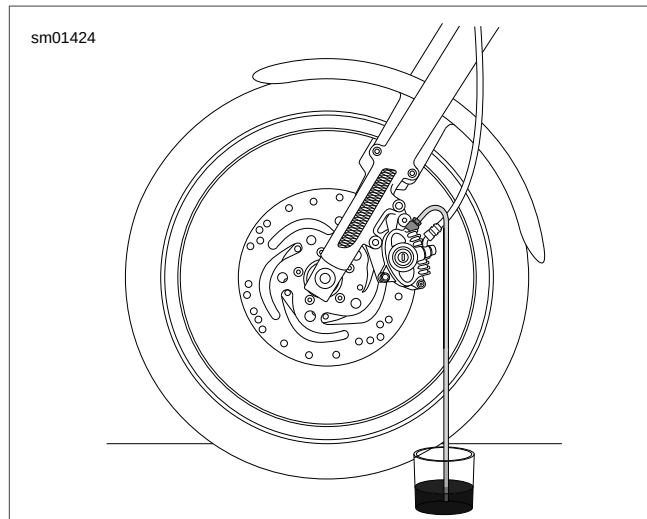

Figure 2-79. Bleeding Hydraulic System (typical; XL model shown)
7. See Figure 2-79. Install length of 5/16 in. (7.9 mm) I.D. clear plastic tubing over front brake caliper bleeder valve (3). Place free end of tube in a clean container.